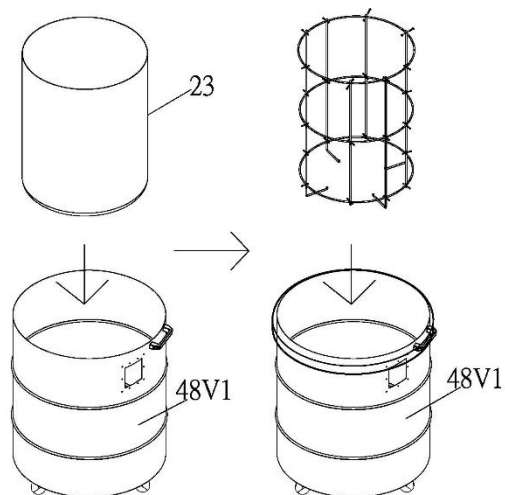

Fig. 8-2
12. Put the PE Bag (NO.23) into the Drum (NO.48V1) first, then placed the inner frame inside the PE bag in order to press the bag down. See FIG. 8-2